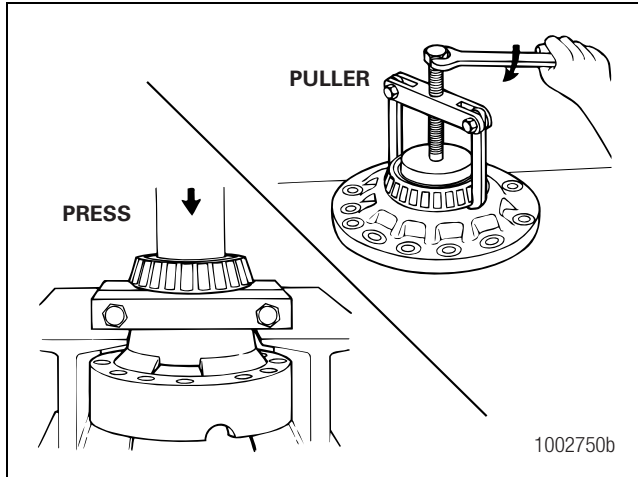

Figure 3.21
- If the differential bearings need to be replaced, use a bearing puller or press to remove the bearing cones from the case halves. Figure 3.21.